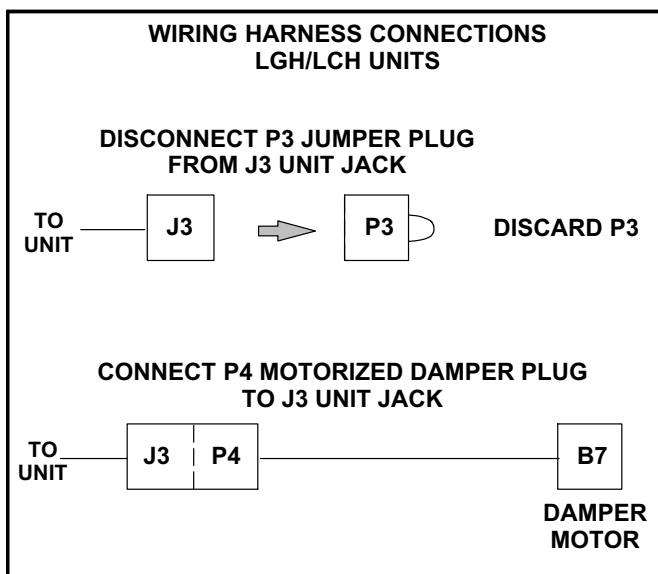

FIGURE 4
- 4- Make harness connections as shown in figure 4, 5, or 6.